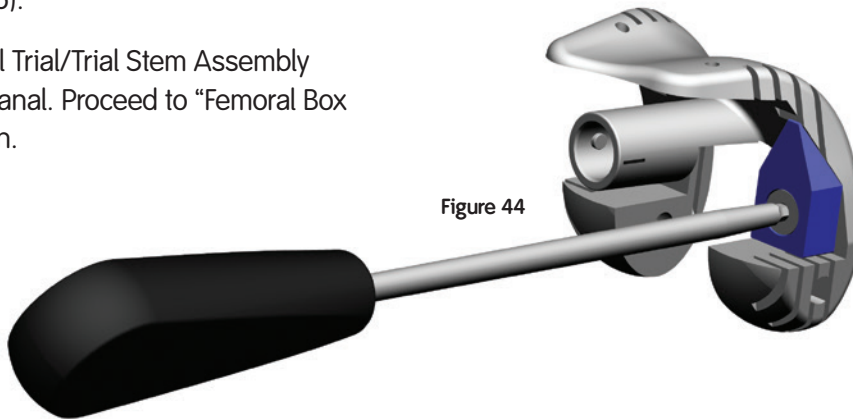

Figure 44
1. Using a 3.5mm Hex Screwdriver, screw on the appropriate Distal Wedge Trial(s) to the Femoral Trial (Figure 44).